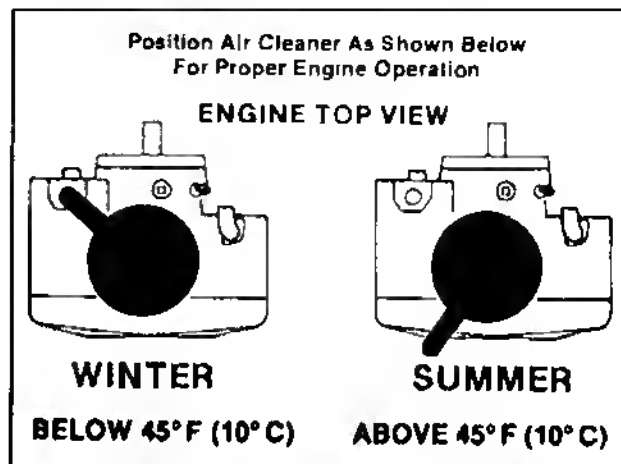

Figure 5-5. Typical Decal - Anti-Icing Air Cleaner Cover Positions.
3. Install the air cleaner cover with the Inlet duct positioned for the season of operation. Refer to the decal on the air cleaner cover (Figure 5-5).